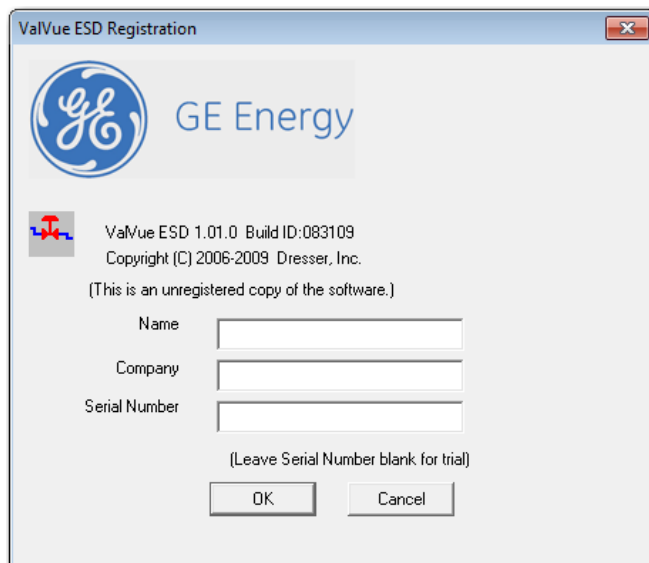

Figure 29 Owner and Product Key Registration Window
1. Start ValVue ESD either by clicking on the desktop icon or using the Start programs selection. When you start ValVue ESD, the registration window appears (Figure 29).